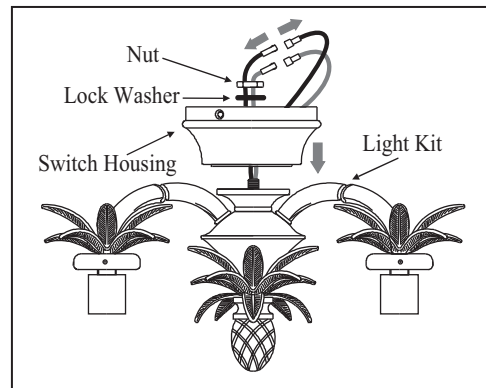

Figure 16
1. Disassemble the switch box from the light kit by loosening the two plug-in wire connectors, you can keep the light kit for future use. (Figure 16)